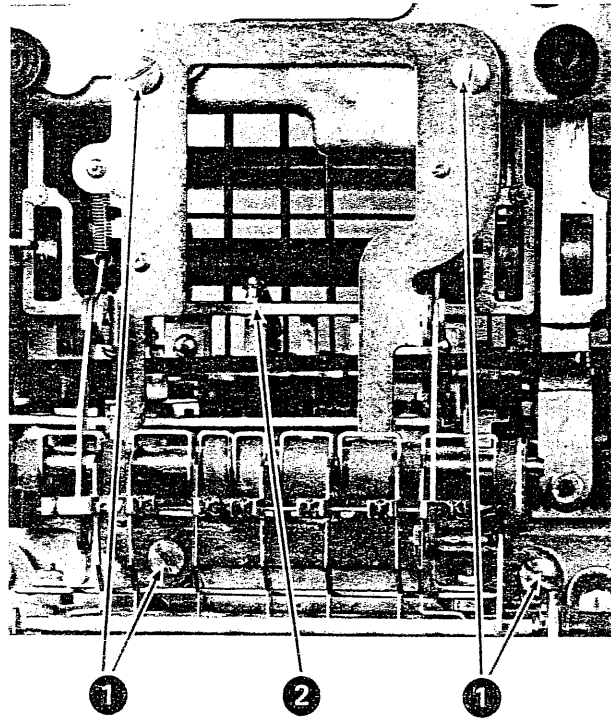

Figure 4-34. Selector-Bail Removal (Steps 2 and 3)
2. Scribe the power frame, remove the four mounting screws (No. 1, Figure 4-34), and carefully remove the pusher-arm assembly.
3. Remove the positive-bail spring (No. 2, Figure 4-34), and pull the bail down.